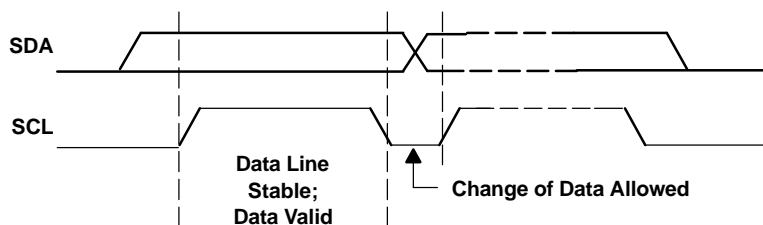
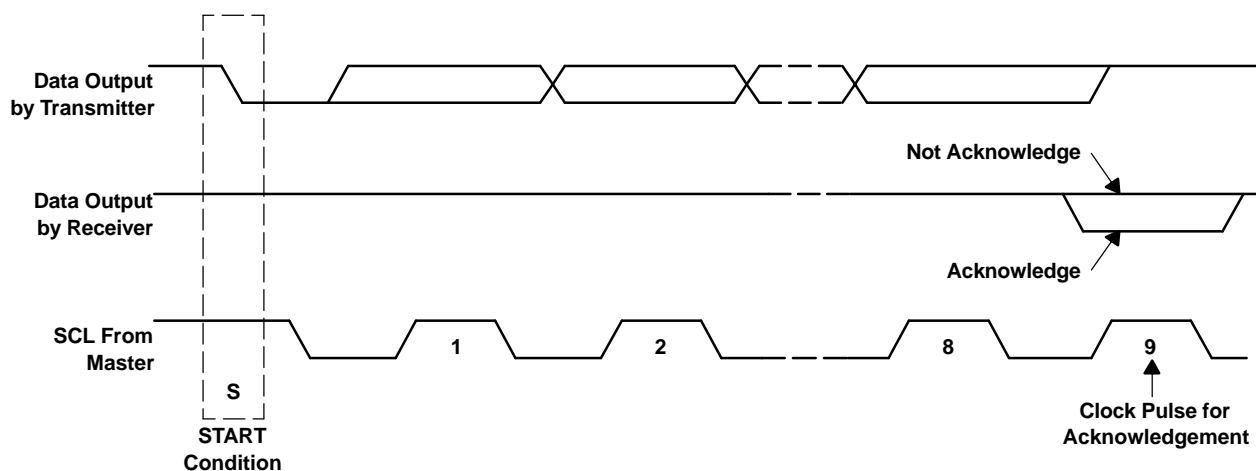

Figure 30. Bit Transfer on the I²C Bus
Figure 31. Acknowledge on the I²C Bus
- The master then generates the SCL pulses, and transmits the 7-bit address and the *read/write direction bit* R/\overline{W} on the SDA line. During all transmissions, the master ensures that data is *valid*. A *valid data condition* requires the SDA line to be stable during the entire high period of the clock pulse (see Figure 30). All devices recognize the address sent by the master and compare it to their internal fixed addresses. Only the slave device with a matching address generates an *acknowledge* (see Figure 31) by pulling the SDA line low during the entire high period of the 9th SCL cycle. Upon detecting this acknowledge, the master knows that communication link with a slave has been established.